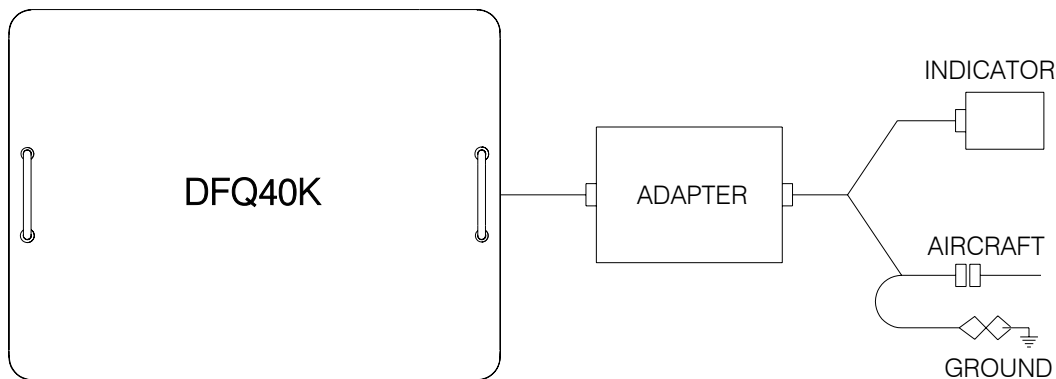

Figure 9 AIRCRAFT CAPACITANCE TEST CONFIGURATION
- (1) Position the equipment conveniently for the following procedures.
- (2) Connect to the Test Set the Adapter Cable specific for the Aircraft being tested, as shown in Figure 9 or as directed in the Adapter Cable Instructions.
- (3) Connect the Adapter Cable between the Indicator and the aircraft wiring plug.
- (4) Connect the ground lead from the adapter (if so equipped) or from the Test Set **GND** receptacle, to a secure airframe ground.